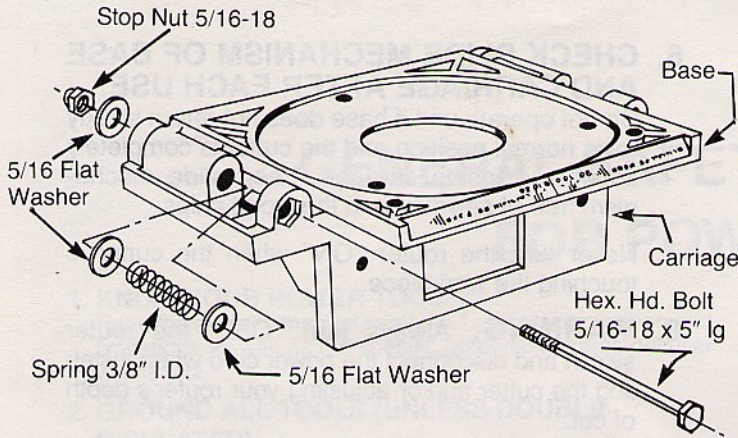

Figure 1
1. Assemble base to carriage as shown in fig. 1.